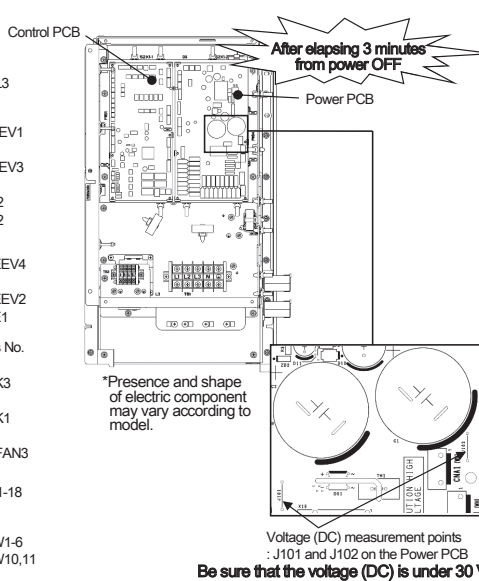

Fig.2 PCB mounting position and voltage measurement points
1. Exchange the PCB **after elapsing 3 minutes from power OFF. (Even after the breaker Have been turned off, some capacitors still hold high voltage. This condition is very dangerous to touch PCB.) Be sure that the voltage (DC) is under 30 V** before harnesses disconnect from PCBs. (Refer to Fig.2)